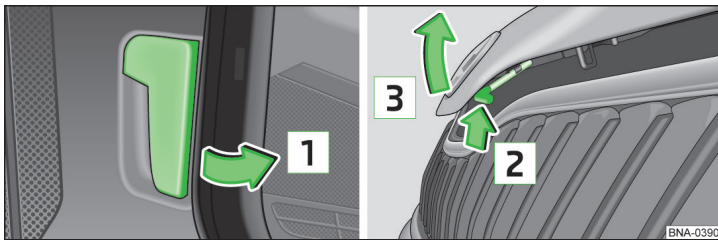

Fig. 75 Bonnet release lever/release lever
- Open the driver's door and pull the unlocking lever below the dashboard in the direction of arrow **1** » fig. 75.